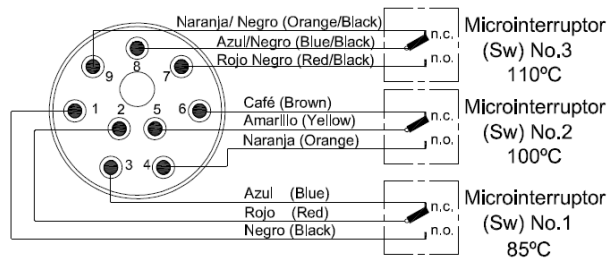

Figure 11
STEP 9 – Connect the female connector cap to the gauge while verifying the pins position between female and male connector per picture 10. The functional connection diagram is indicated in figure 11.